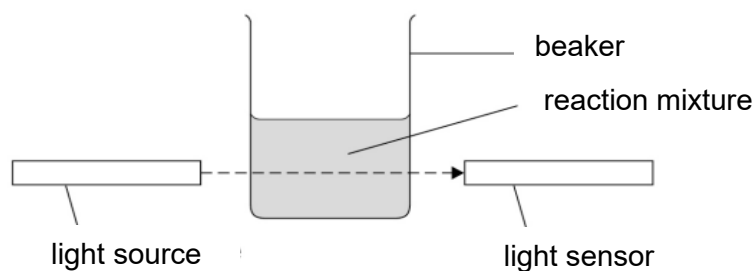

Fig. 11.1
- 11 A student investigates how different conditions affect the rate of reaction between aqueous calcium chloride and aqueous sodium carbonate. The experimental set-up is shown in Fig. 11.1.